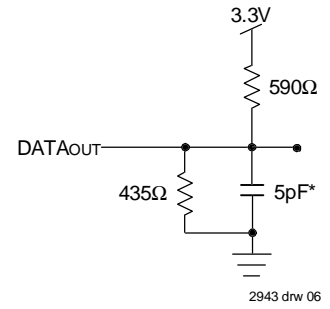

Figure 2. Output Test Load
1. Transition is measured  $\pm 200\text{mV}$  from Low- or High-impedance voltage with Output Test Load (Figure 2).
1. Transition is measured  $\pm 200\text{mV}$  from Low or High impedance voltage with Output Test Load (Figure 2).
7. This parameter is guaranteed by device characterization, but is not production tested. Transition is measured ±200mV from steady state with the Output Test Load (Figure 2).